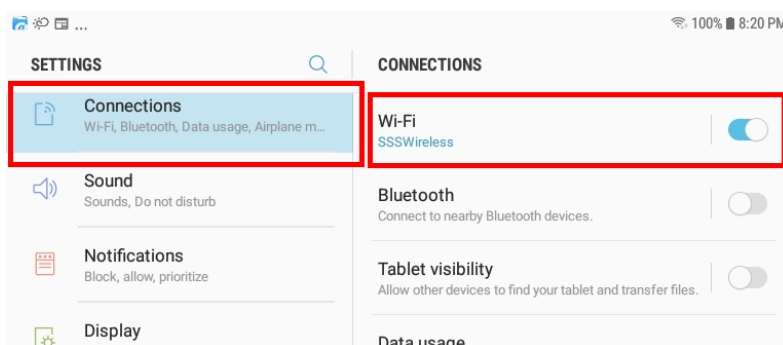

Figure 14 The Wi-Fi Connection page in the Android Settings app
- (3) Make sure power to your NCE Command Station and booster is on, the WFD-30 is connected to the command station and there is a locomotive on the track with a DCC address that you know. Both the red power LED should and the blue Cab Bus indicator LED should be alight.
- (4) Tap the Home button, and run the settings app on your Android phone.
- (5) Tap Connections on the left, then Wi-Fi on the right as Figure 14 (This may vary with different versions of Android).